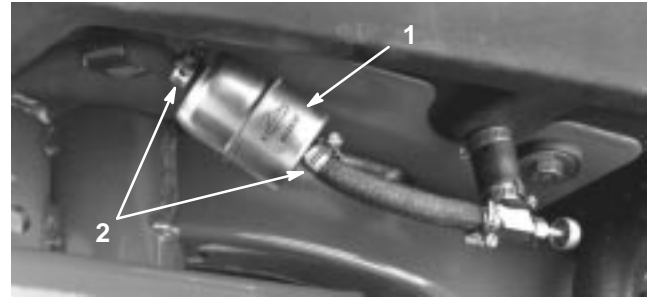

Figure 39
An in-line filter is incorporated into the fuel line between the fuel tank and carburetor (Fig. 39). Replace the filter every 800 hours or sooner if the fuel flow is restricted. Be sure the arrow on the filter is pointing away from the fuel tank.
1. Close the fuel shut off valve, loosen the hose clamp (Fig. 39) on the carburetor side of filter and remove the fuel line from the filter.
2. Place a drain pan under the filter, loosen the remaining hose clamp, and remove the filter (Fig. 39).